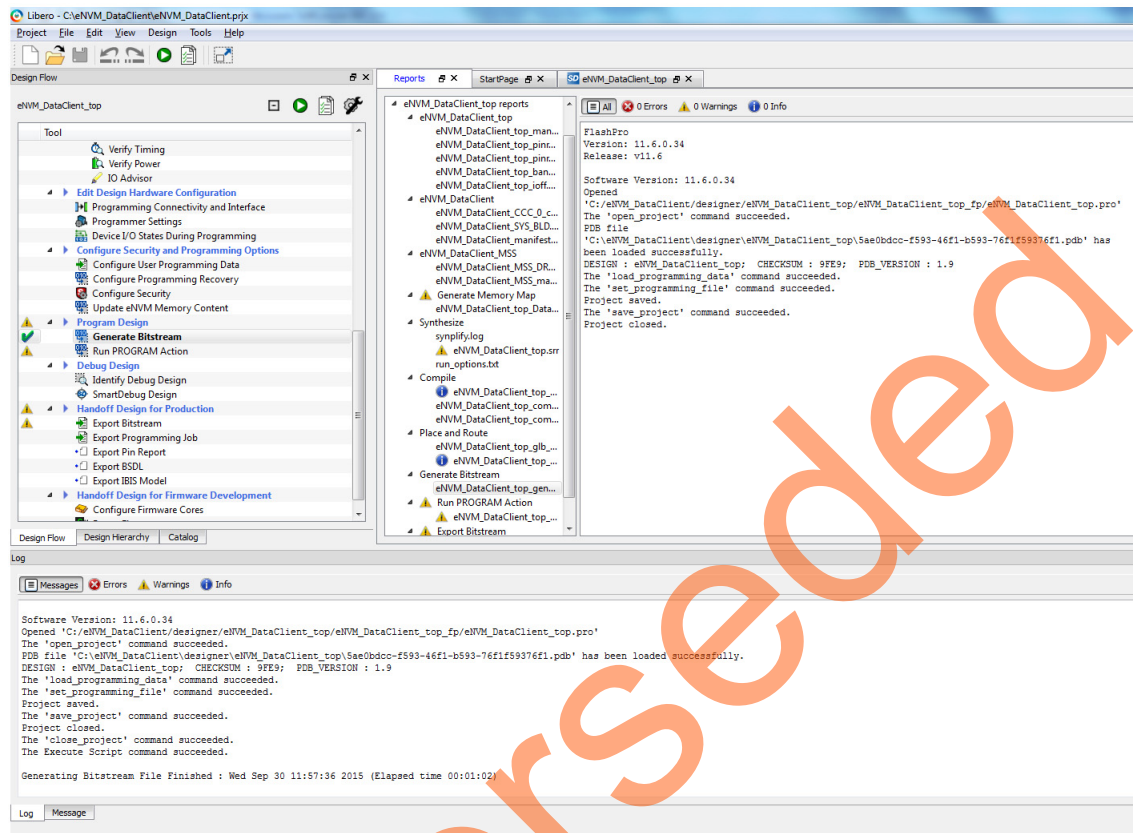
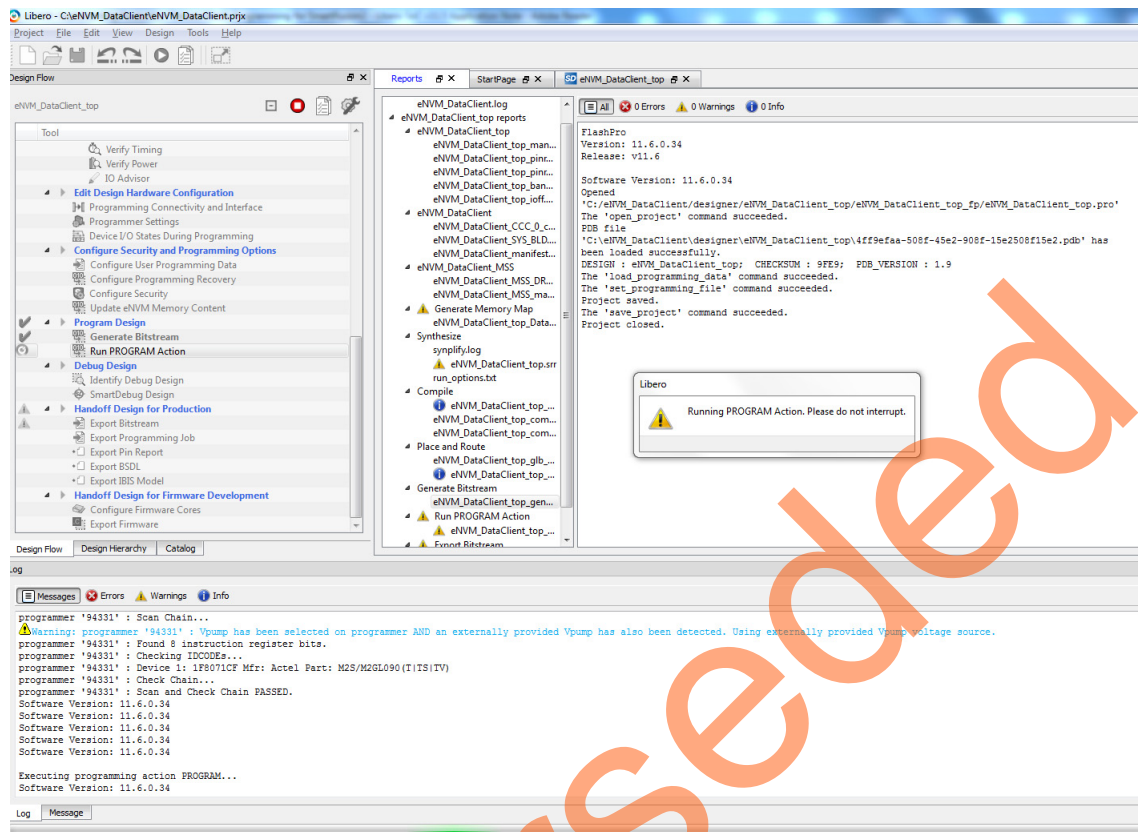

Figure 21 • Selecting Run PROGRAM Action
Figure 22 • Programming SmartFusion2 Security Evaluation Kit
12. Click **Run PROGRAM Action** to program the SmartFusion2 Security Evaluation Kit, see Figure 21 and Figure 22 on page 20.